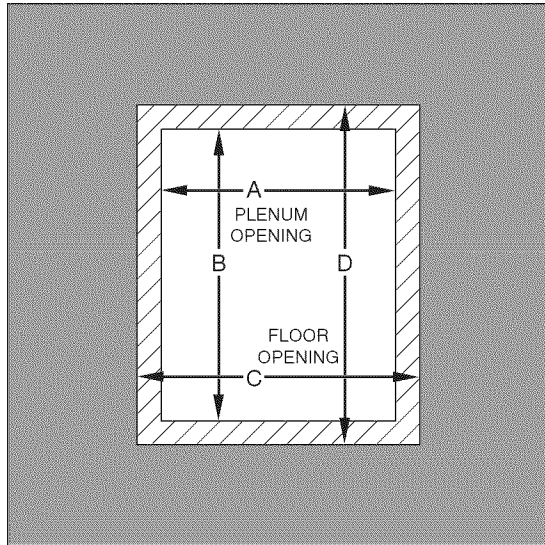
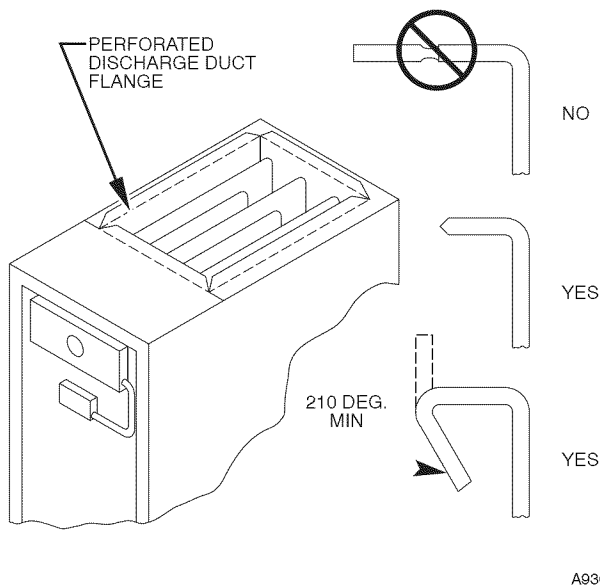

Fig. 21 - Floor and Plenum Opening Dimensions
Fig. 24 - Duct Flanges
2. Construct hole in floor per dimensions specified in Table 3 and Fig. 21.
3. Construct plenum to dimensions specified in Table 3 and Fig. 21.
NOTE: Remove furnace perforated, discharge duct flanges when they interfere with mating flanges on coil on downflow subbase. To remove furnace perforated, discharge duct flange, use wide duct pliers or duct flange tool or hand seamers to bend flange back and forth until it breaks off. Be careful of sharp edges. (See Fig. 24.)
Do not bend duct flanges inward as shown in Fig. 21. This will affect airflow across heat exchangers and may cause limit cycling or premature heat exchanger failure. Remove duct flange completely or bend it inward a minimum of 210° as shown in Fig. 24.
Connect supply-air duct to supply-air opening on furnace. The supply-air duct attachment must be connected to ONLY furnace supply/outlet or air conditioning coil casing (when used), when installed on non-combustible material. When installed on combustible material, supply-air duct attachment must be connected to ONLY an accessory subbase or factory approved air conditioning coil casing. DO NOT cut main furnace casing to attach supply side air duct, humidifier, or other accessories. All accessories MUST be connected external to furnace main casing. Supply air opening duct flanges must be modified per Fig. 24.